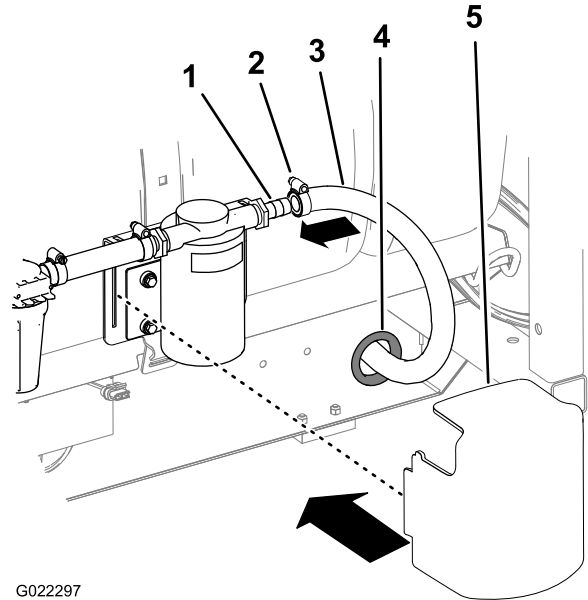

Figure 12
1. Install the hose grommet into the hole at the right side of the sprayer frame near the rinse tank (Figure 12).
3. Route the hose through the previously installed gasket in the side of the frame (Figure 12).
4. Attach the end of the 101.5 cm (40 inch) hose to the straight barbed fitting on the rinse pump, and secure it with a hose clamp (Figure 12).
5. Secure the rinse-pump cover over the pump using 2 hair pins (Figure 12).